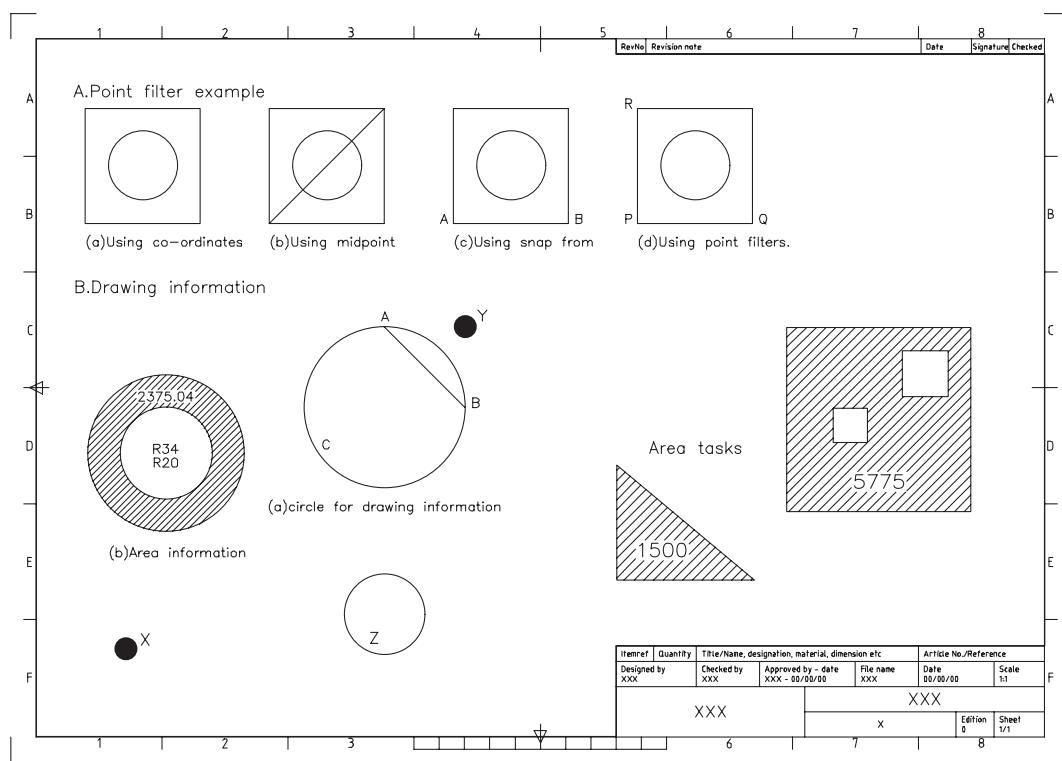

Figure 19.1 Point filters and drawing information exercises.
- 2 Open the A3PAPER standard sheet and refer to Figure 19.1.